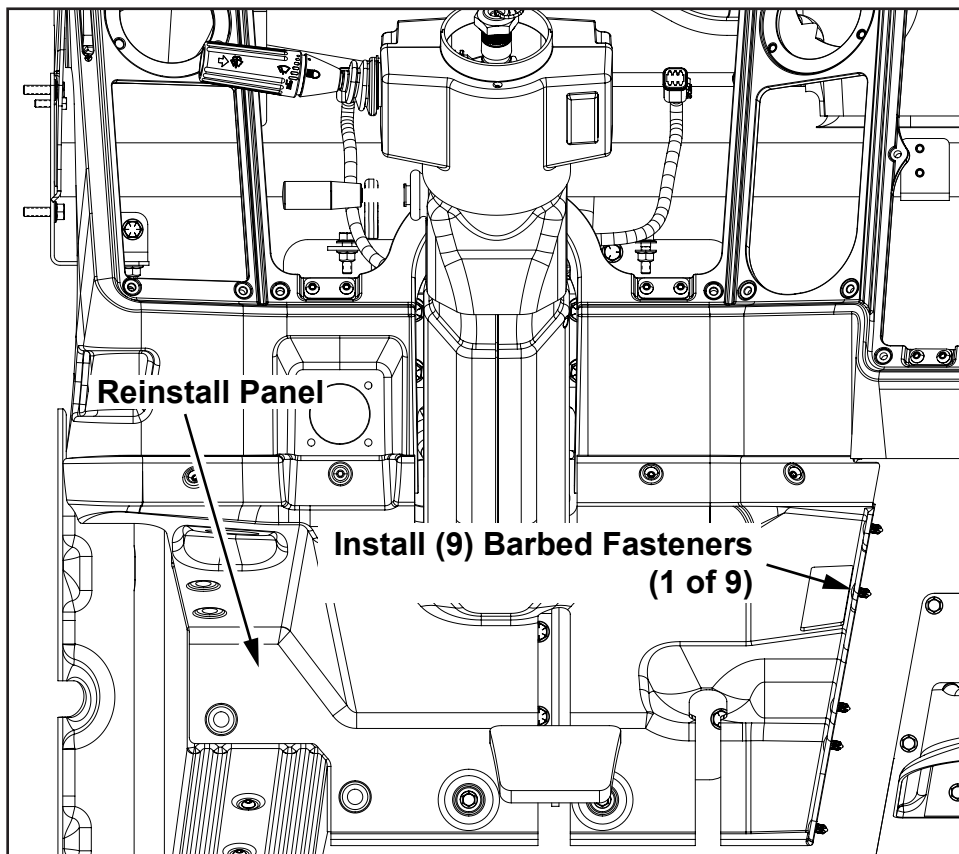

Figure 5
8. Using the screws set aside in step 2 and (9) GZ180008-002 Barbed fasteners, reinstall the lower closeout panel (see *Figure 5*).